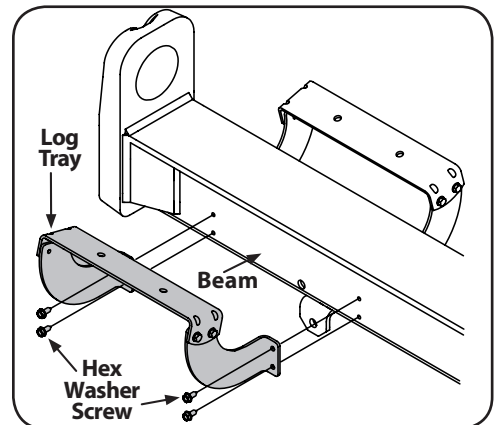

Figure 2-7
18. Reattach the log tray to the control valve side of the beam, aligning the holes in the tray with the holes in the beam and re-installing the hardware removed in step 15. See Figure 2-7.